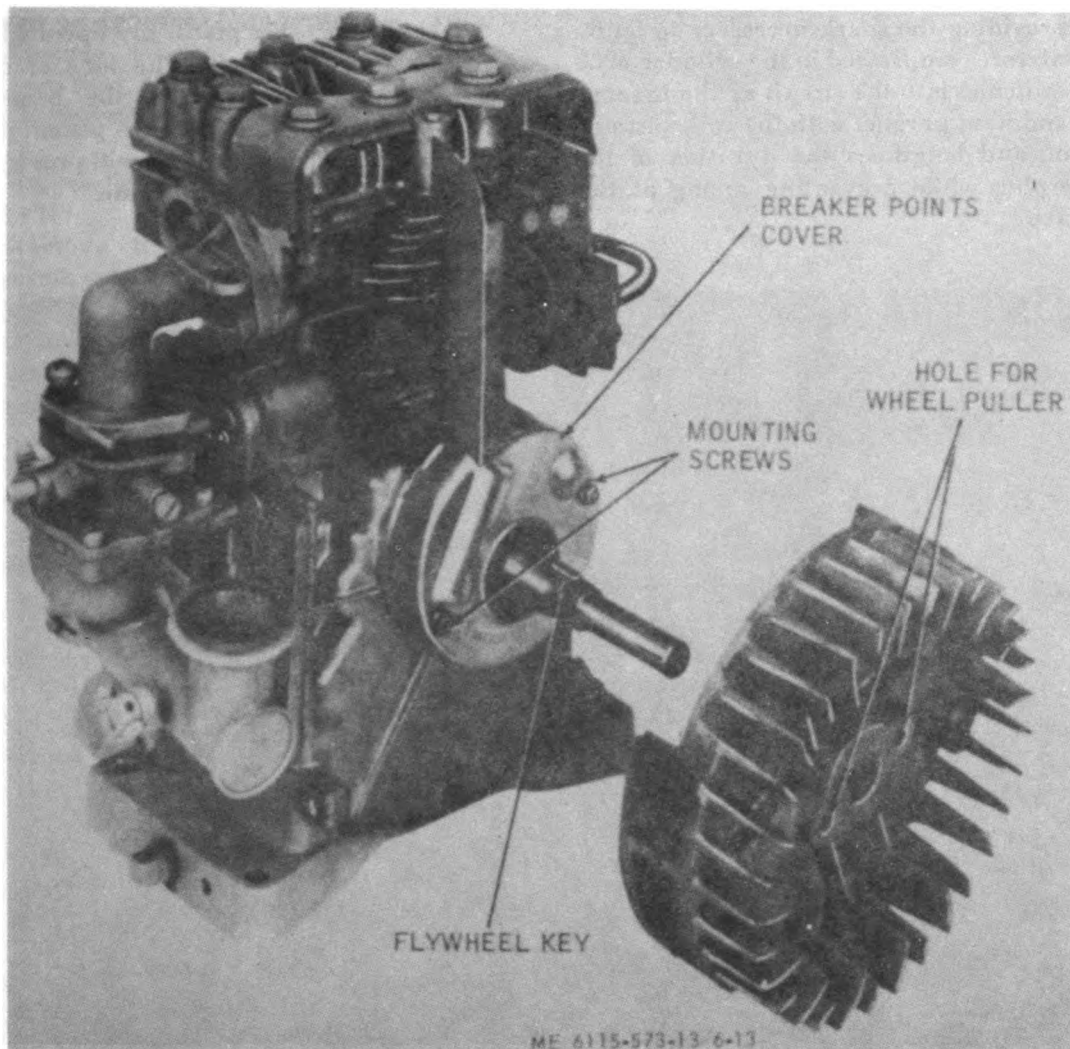

Figure 6-13. Flywheel removed.
(e) Remove flywheel with wheel puller; two holes are provided for insertion of wheel puller bolts into flywheel (fig. 6-13).
(a) Position flywheel on crankshaft so that keyway aligns with key. Insert key into keyway of crankshaft. Tap flywheel onto crankshaft with soft hammer until it is firmly seated on tapered shaft (fig. 6-13).
(1) Remove starter mechanism and fan housing (para 6-3). If additional access is required, remove appropriate housings (para 4-17, 5-5, and 6-2).
(2) Remove the starter pawl cup and flywheel (para 6-3 e).
(3) Remove the two screws holding the breaker points cover and remove the cover (fig. 6-13).